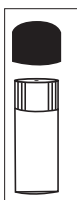

Figure 3A
2. Remove the vinyl cap from the vial to expose the small leak hole as shown in Figure 3A below. DO NOT UNTWIST THE BLACK CAP FROM THE BOTTLE.